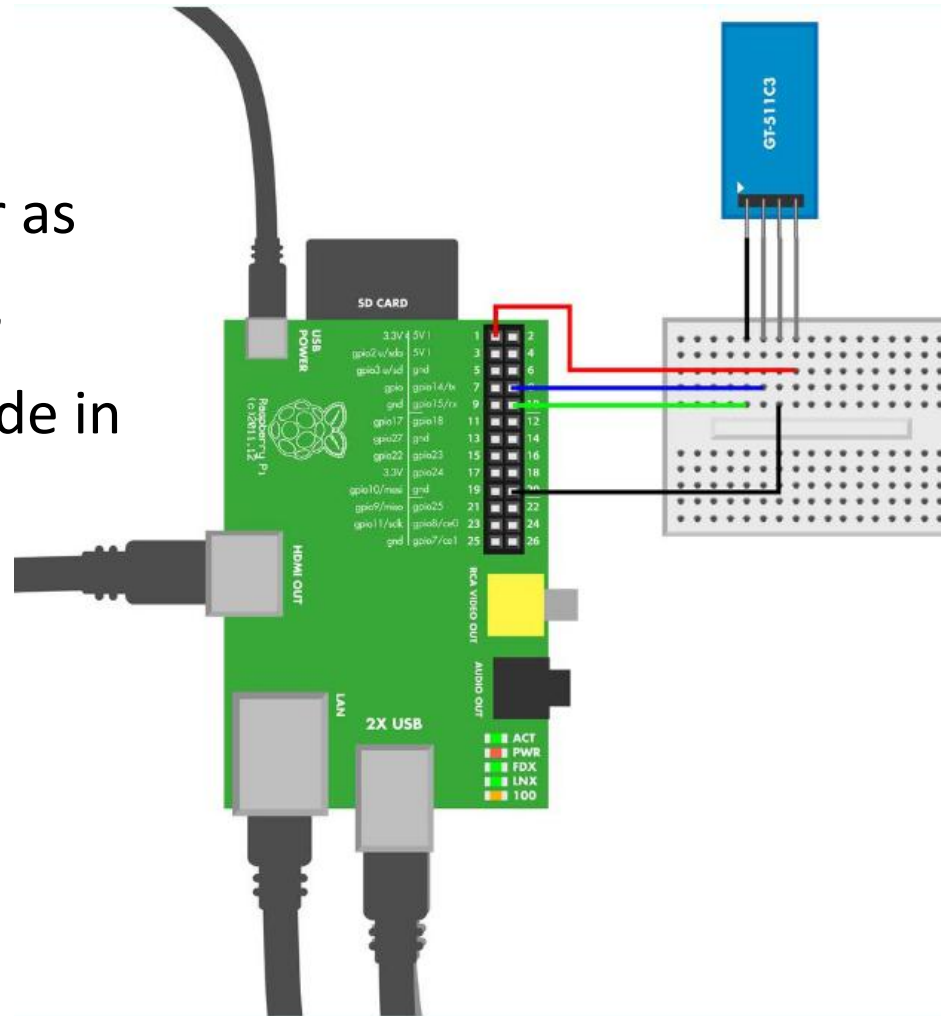

Figure 9-7. Fingerprint scanner connection diagram for Raspberry Pi
- Wire up the scanner as shown in Figure 9-7,